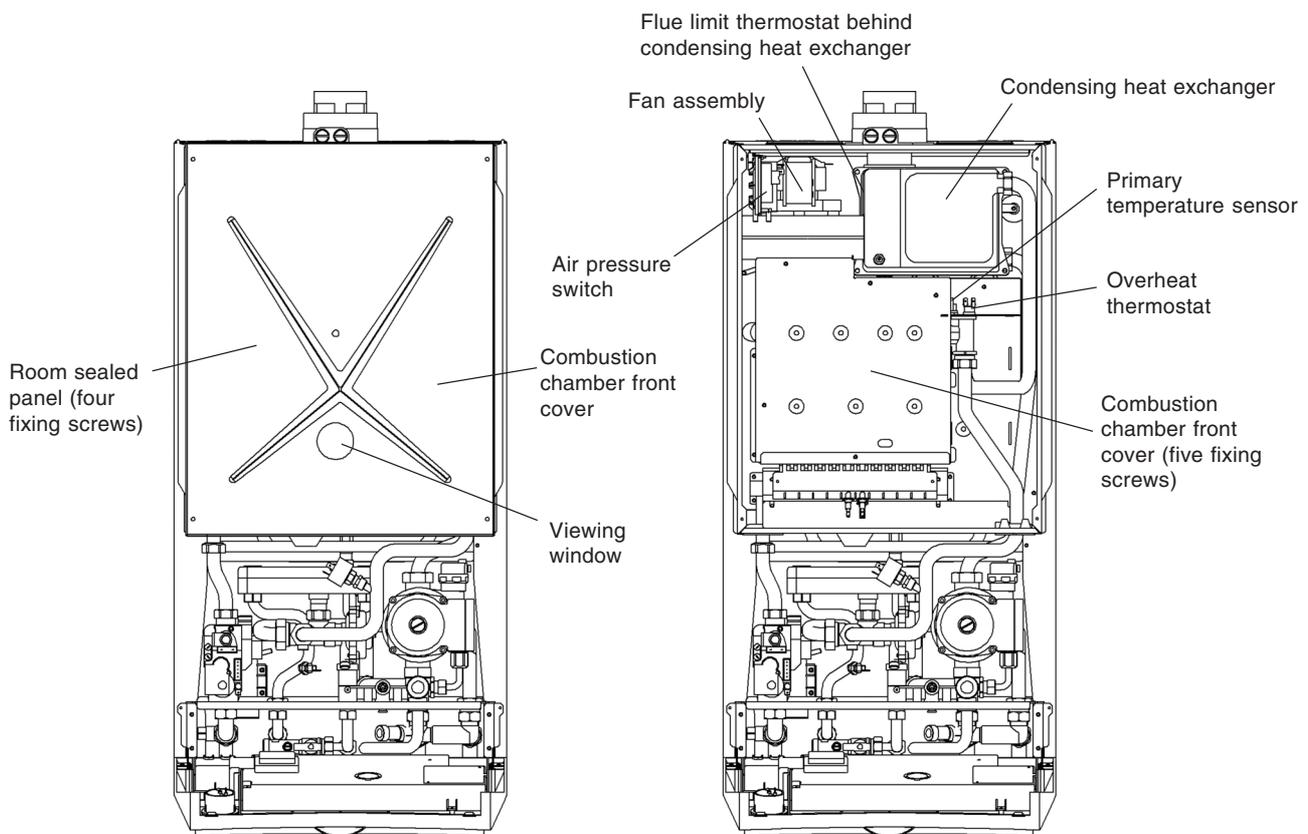

Fig. 24
7.2 PREPARE FOR SERVICING - Fig. 24
6. Place the front case panel in position as shown in Fig. 24 and secure in position.
8.1 GENERAL ACCESS - Fig. 24
2. **To gain access behind the casing** - Lift the case front panel upwards slightly and pull it forwards to remove it from the boiler (see Fig. 24). If required, remove the side panels by removing the bottom fixing screw and lifting forwards and upwards.
8.7 FAN - Fig. 24
8.8 AIR PRESSURE SWITCH - Fig. 24